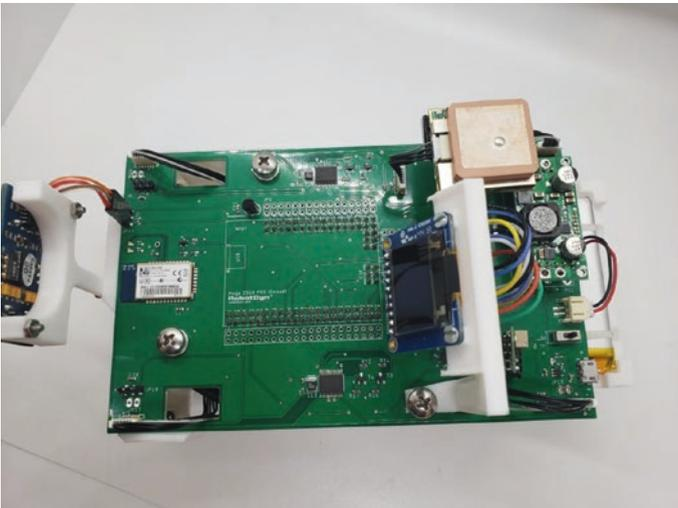

Figure 8-66. Attach the JST cables to the motor headers on the PCB
21. Connect all of the motor cables to the correct connector on the NatBot PCB. See Figure 8-66.